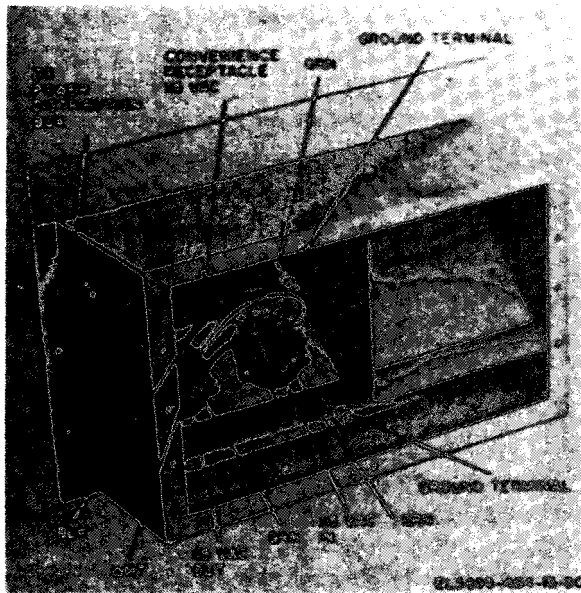

Figure 4-11. Power entrance box, rear view.
(2) Remove the power entrance box interior cover, disconnect the wires from the appropriate receptacle, and remove the receptacle (fig. 4-11).
(3) Install the replacement receptacle, connect the wires to the proper terminals of the receptacle, and replace the power entrance box cover.